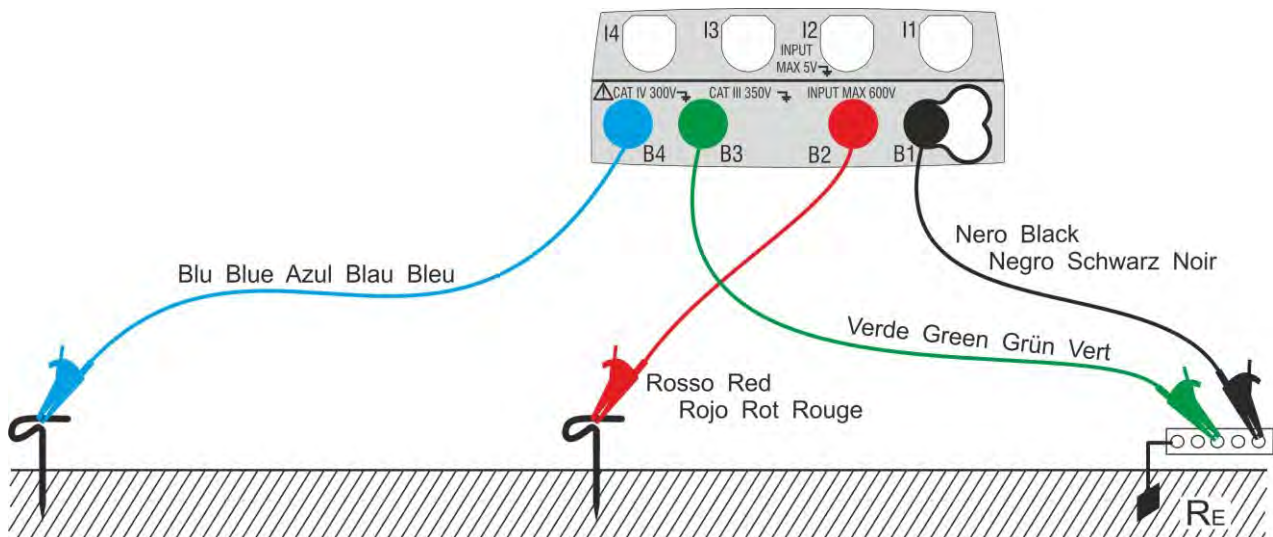
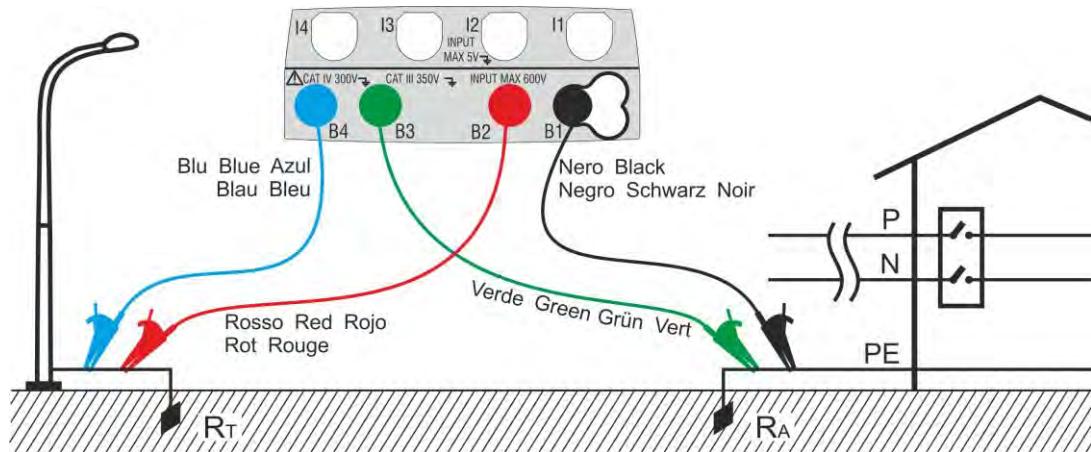
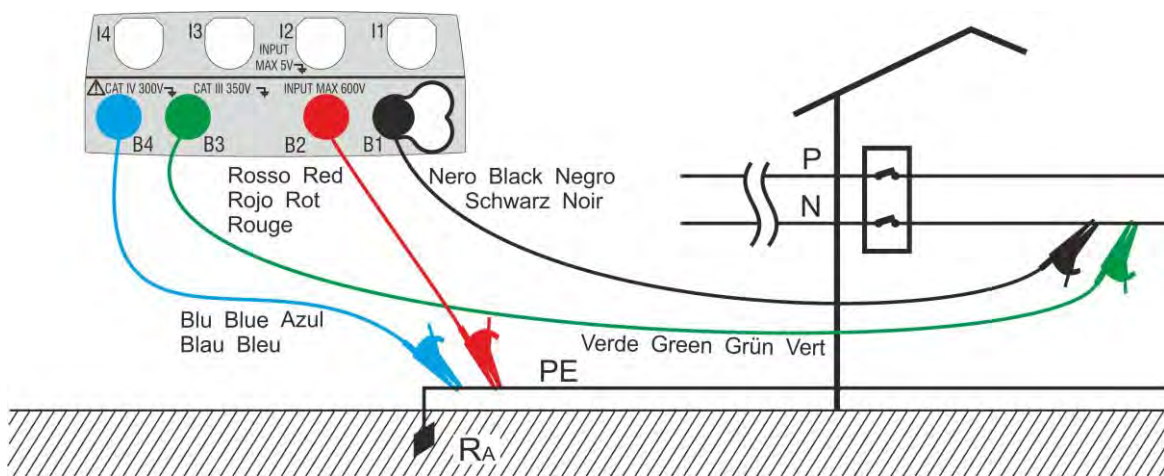

Fig. 27: Three-wire earth resistance measurement
Fig. 28: Two-wire earth resistance measurement using an auxiliary rod
Fig. 29: Two-wire earth resistance measurement from the panel board
- 12 Connect the alligator clips to the auxiliary rods and to the installation under test according to Fig. 27, Fig. 28, Fig. 29 or Fig. 30.